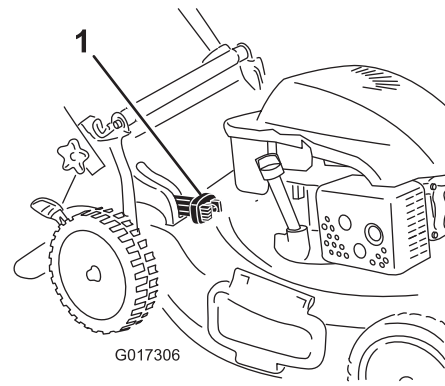

Figure 18
- For bagging the grass and leaf clippings, press the button on the bag-on-demand lever and move the lever forward until the button on the lever pops up (Figure 18)